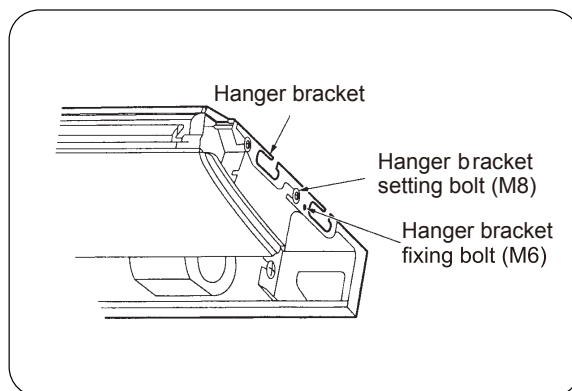

Fig.5
(4) Loosen two hanger bracket setting bolts (M8) on each side for less than 10mm. Remove two hanger bracket fixing bolts (M6) on the rear side. Detach the hanger bracket by pulling backward (Refer to Fig.5)
(8) Screw tightly both hanger bracket setting bolts (M8). (Refer to Fig.5)
(9) Screw tightly both hanger bracket fixing bolts (M6) to prevent the movement of the unit (Refer to Fig.5)